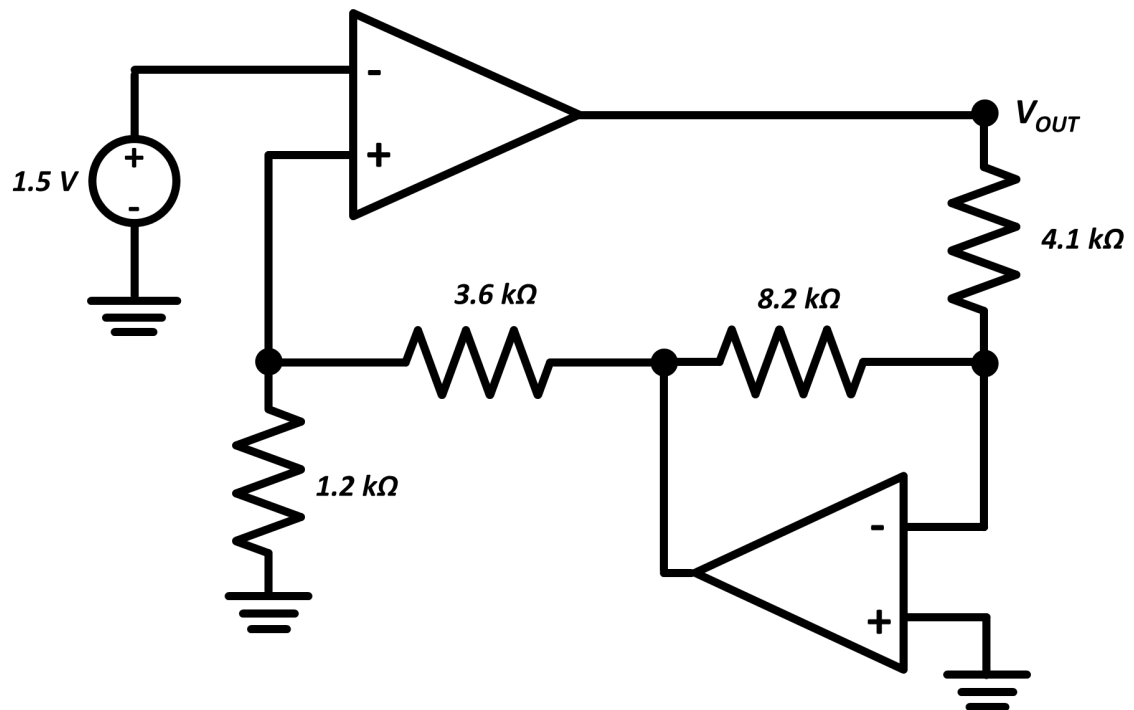

Figure 3
- (A) 0.5 A
- (B) 0.5 mA
- (C) 2.5 mA
- (D) 0.25 mA
10. Calculate the value of V_{OUT} in Figure 3. Both the op-amps are supplied with a dual power supply of $\pm 8\text{ V}$.